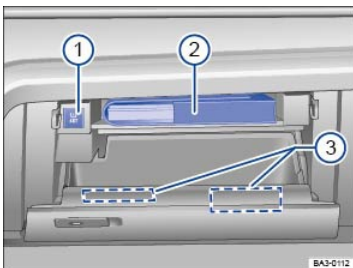

Fig. 106 Inside the glove compartment.
Key to ⇒ Fig. 106 :
The Owner's Manual is in this glove compartment slot ⇒ Fig. 106②.
There are holders for a pen and a notepad in the glove compartment cover ⇒ Fig. 106③.
The Tire Pressure Monitoring System (TPMS) SET button ⇒ Tire Pressure Monitoring System \(TPMS\) and recalibration with the SET button ⇒ Fig. 106① is located in the glove compartment.